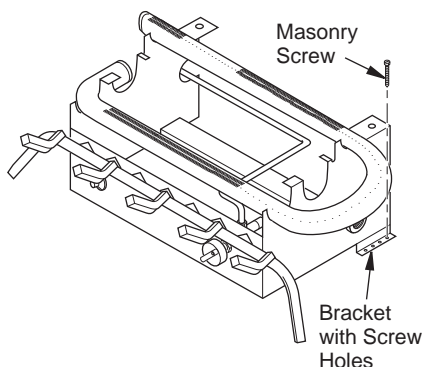

Figure 13 - Attaching Base to Fireplace Floor (Variable Manually-Controlled Models Only)
7. Mark screw locations through one hole on each side of the mounting bracket (see Figure 13, page 14). If installing in a brick-bottom fireplace, mark screw locations in mortar joint of bricks.